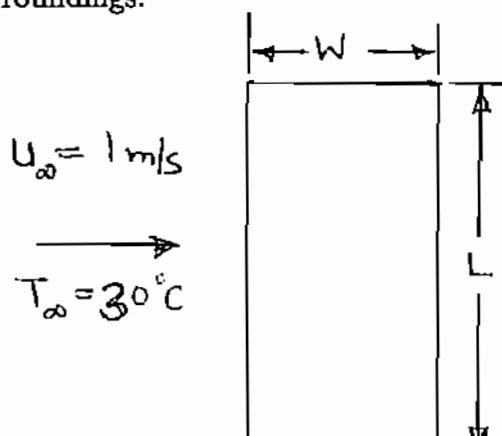

fig P1.
1. A wet carpet of size 6 m × 3 m, which has absorbed 10 kg of water, is hung outdoors from a line as shown in fig P1, such that vaporisation is possible from both the surfaces of the carpet. The carpet is exposed to a wind speed of 1 m/s. The dry bulb temperature of the air is 30 °C and its wet bulb temperature is 20 °C (under these conditions, the relative humidity of air is found to be about 40%). Assuming the boundary layer is laminar over the entire width W of the carpet, and the carpet surface is maintained at the wet bulb temperature of air throughout the drying process, estimate the total time required for drying the carpet. Assume the concentration of water vapour at the carpet surface remains unchanged throughout the drying process. The mass diffusivity of water vapour in air is known to be $0.288 \times 10^{-4} \text{ m}^2/\text{s}$.